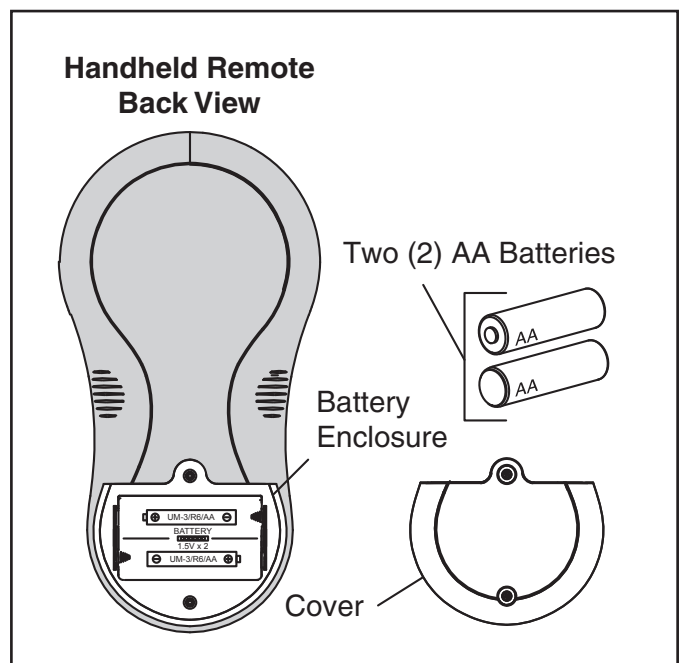

Figure 31. Battery Installation on Handheld Remote
2. On the back of the Handheld Remote, loosen and remove the two (2) screws that secure the cover for the battery chamber (see Figure 31).
3. Install two (2) AA batteries. Ensure that the polarity is correct.
4. Re-install the cover for the battery chamber and secure with the two (2) screws removed in Step 2.